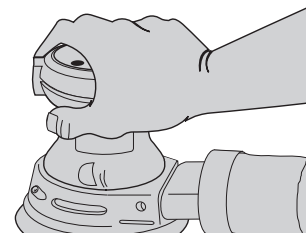

FIG. 8
- f. Press in new disc around the edges using both hands to ensure that the disc is inserted snugly into the shroud as shown in figure 8.